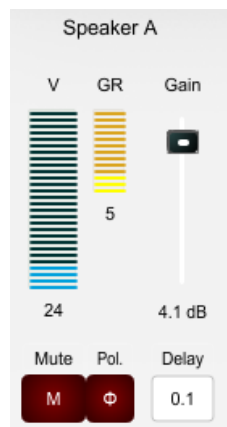

Figure 5 – Screenshot of Audio Control Section.
- The Audio Control Section controls the *User EQ* section of the amplifier (found in *Armonía +*) and is made up of the following controls (Figure 5):